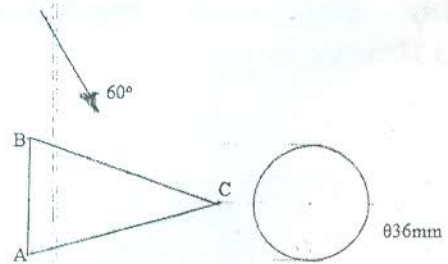

Figure 3
- (3) The front and end elevation of a cone are shown in figure 3. Draw:
- (a) Reproduce front and end elevation of a cone in figure 3.
- (4) A plate cam rotating clockwise is to give an inline point follower the following motion;